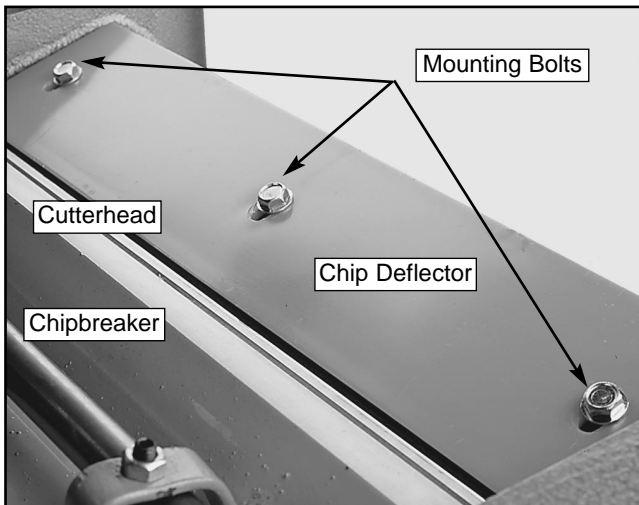

Figure 29. Chip deflector access.
2. Loosen the three deflector mounting bolts. **See Figure 29.** Make sure the beveled edge of the deflector faces the cutterhead.